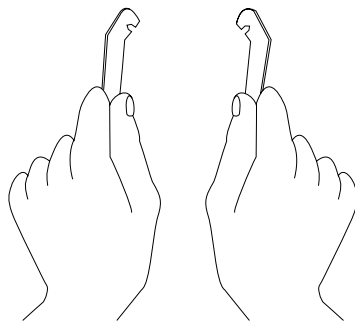

Figure 2-8 Orientation of the wrenches
- Grasp the wrenches as shown in Figure 2-8. The orientation of the wrenches is important.